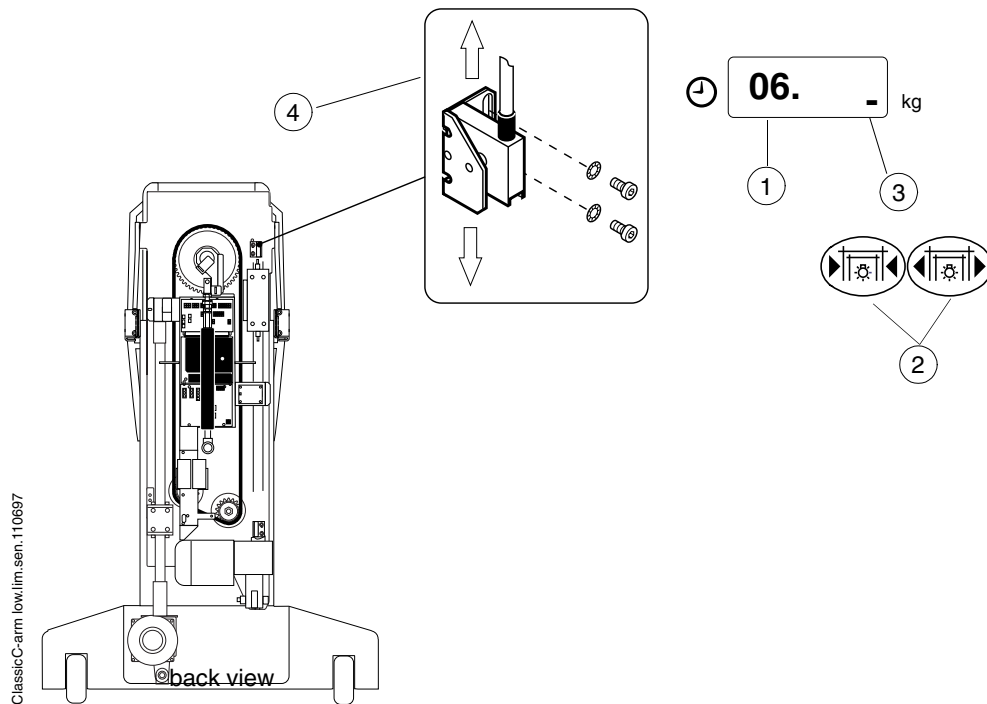

Figure F.30
- c) Enter the service mode and select the display of internal signals mode 06, see “SERVICE MODE FUNCTIONS SHORT-FORM” on page C-4. (Fig. F.30, 1).
- a) Drive the C-arm to the transportation position with field/light keys (Fig. F.30, 2). Check that the right lower signal on the display (Fig. F.30, 3) lights when the C-arm reaches the vertical position.
- b) The C-arm is must be slightly over 180° position before the right lower signal lights, adjust the position of the Rotation lower limit sensor (Fig. F.30, 4) if needed. Check the C-arm rotation and readjust, if needed.